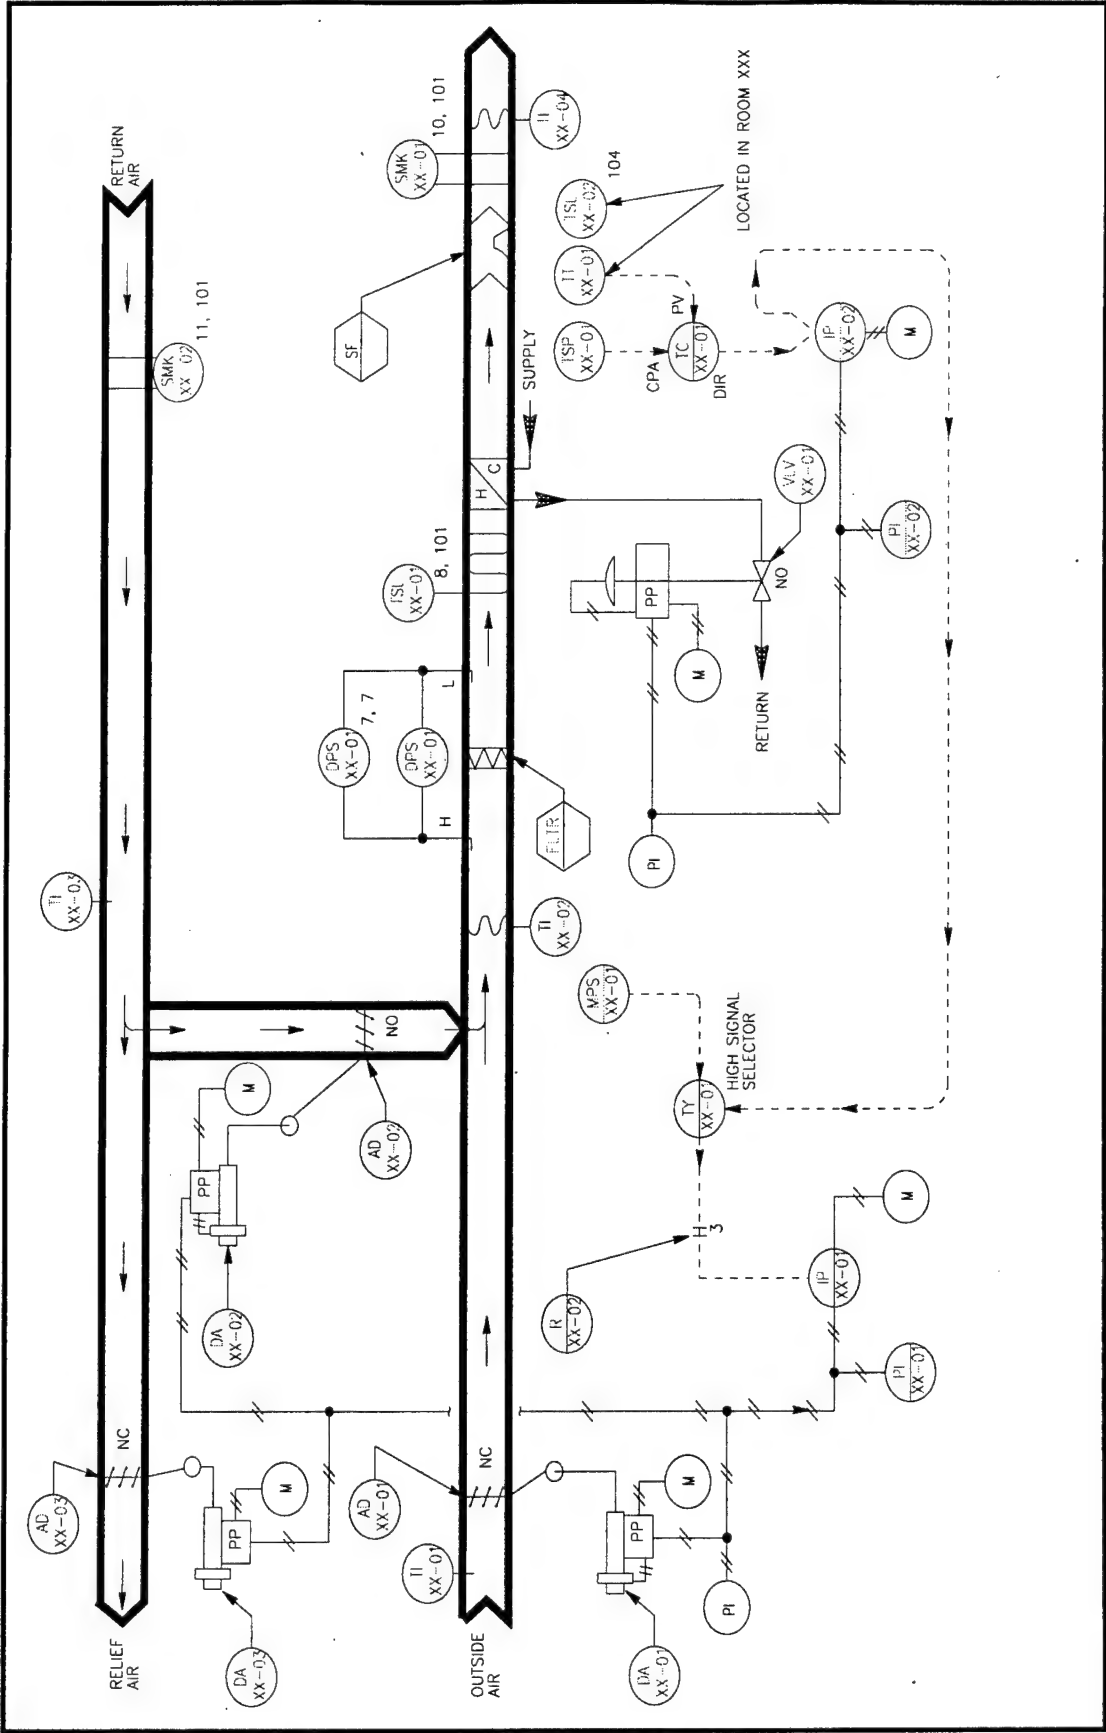

Figure 3. Typical control schematic.
The *Control Schematic* is a functional diagram that shows the basic layout of the HVAC system controls. The control schematic also includes an equipment schedule and in some cases a sequencing chart. Figure 3 shows a typical control schematic for a heating and ventilating control system. Main (pneumatic) air source indicated by an M. Both main air and pneumatic control signal lines are represented by solid lines with double slashes. Electronic control signal lines appear as dashed lines.
On rung 3 there are 4 relays; R-XX04 (NO) cross referenced to rung 6, R-XX03 (NC) referencing rung 4, R-XX01 (NO) referencing rung 1, and R-XX02 referencing occupied, fan on, vent delay off, and IP-XX01. When the fan is on, the fan motor starters closes a NO contact on rung 6, energizing R-XX04. When R-XX04 is energized, the NO contact on rung 3 closes. When the vent delay mode ends, the CLK NO contact on rung 5 opens, PL XX02 is off and R XX03 is not powered causing the NC contacts of R XX03 to close on rung 3. R XX01 NO contact is closed by CLK on rung 1. When all three relay contacts are closed on this rung, R XX02 is energized. R XX02 is referenced to IP XX01 on the controls schematic. Locate IP XX01 and R XX02 on the control schematic (Figure 3). R XX02 has to be energized to close the NO contact, which completes the control signal circuit from TY XX01 to IP XX01. Note that R XX02 refers back to rung 3.